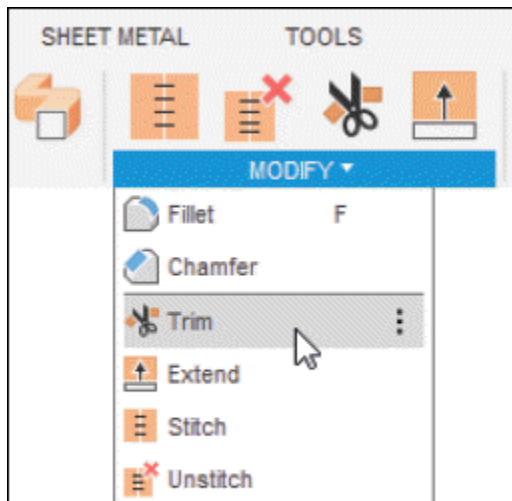
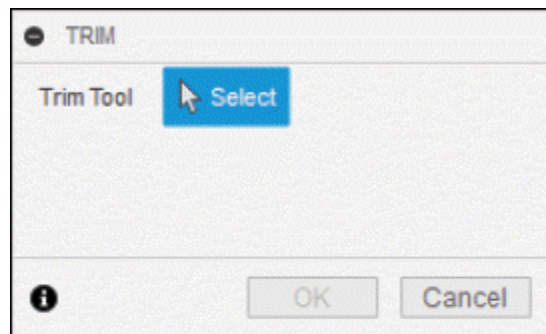

Figure-14. Trim tool
Figure-15. TRIM dialog box
- Click on the **Trim** tool of **MODIFY** drop-down from **Toolbar**; refer to Figure-14. The **TRIM** dialog box will be displayed; refer to Figure-15.